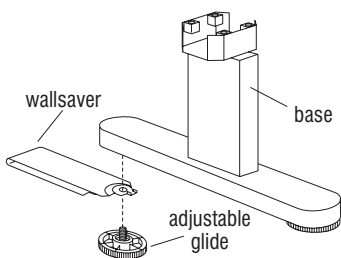

Figure 10
1. Remove the rear adjustable glide from the bottom of the base (Figure 10).
2. Orient the wall saver as shown with the tabs facing up into the bottom of the base. Turn the adjustable glide back into the bottom of the base through the hole in the wall saver (Figure 10).